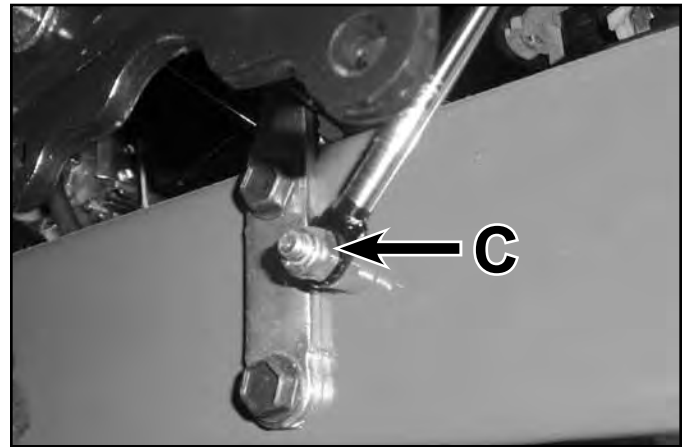

Fig. 032
1. Install the washer (B) and upper damper eyelet to the actuator arm and torque the shoulder bolt (A) to specification – 7.5 ft-lbs. (10 Nm).
2. Install the lower eyelet to the frame stud (D) and torque the nut (C) to specification – 7.5 ft-lbs. (10 Nm).
4. Check the motion control system for proper function. (Fig. 032)